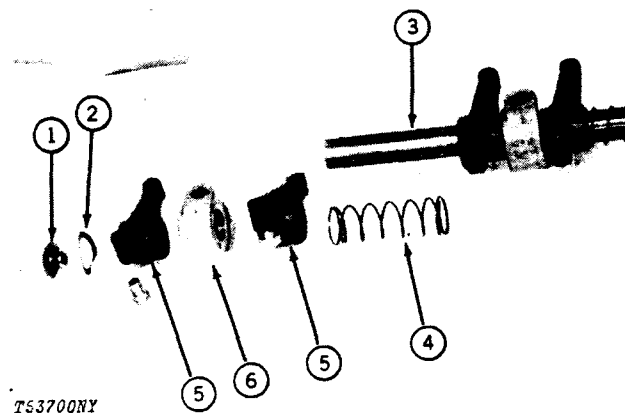

Fig. 45-Rocker Arm Assembly
Remove plugs (1, Fig. 45) and bowed washers (2) from rocker arm shaft (3).